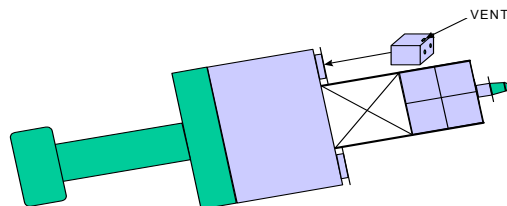

Figure 2-7
- e. When installing Delco 2000 batteries in tube type buoy hulls, the battery vent must face "up" with the terminals facing the pocket cover, otherwise electrolyte will drip out of the battery when it is serviced on deck, as shown in Figure 2-7.